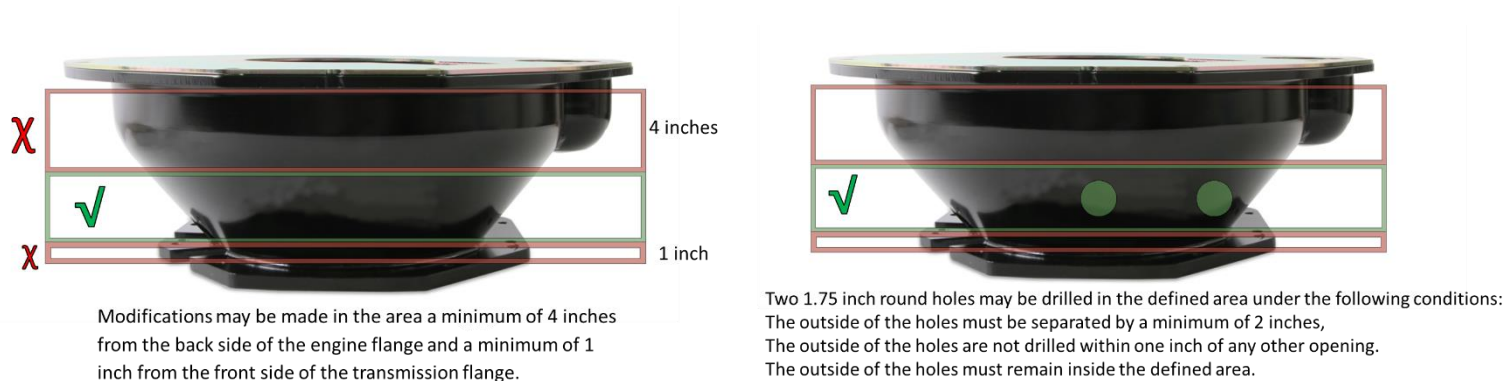

Figure 20
- 1. SFI approved steel bellhousings may be modified in accordance with the Figure 20 to facilitate clutch cooling.